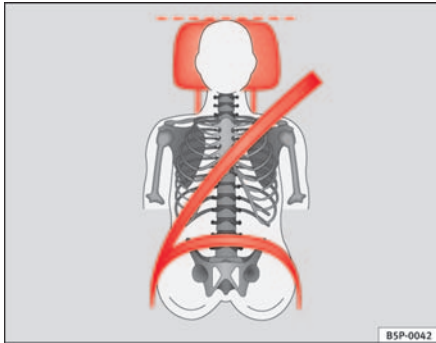
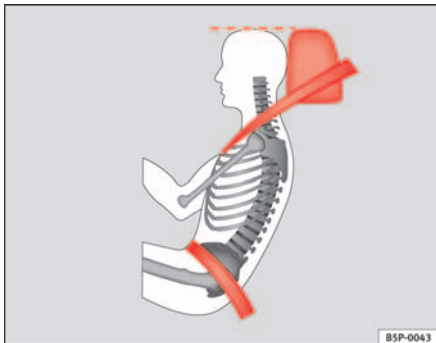

Fig. 3 Properly adjusted head restraint viewed from the front
Fig. 4 Properly adjusted head restraint viewed from the side
- Adjust the head restraint so that its upper edge is at the same level as the top of your head, or as close as possible to the same level as the top of your head and, at the very least, at eye level ⇒ fig. 3 and ⇒ fig. 4.